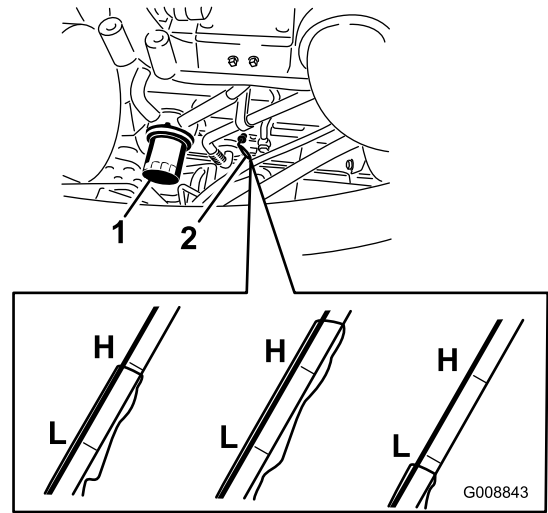

Figure 61
2. Remove the dipstick (Figure 61), wipe it clean, install the dipstick into the tube, and pull it out again. The oil level should be up to the Full mark.
2. Remove the oil filter (Figure 61). Apply a light coat of clean oil to the new filter seal before screwing it on. **Do not overtighten.**